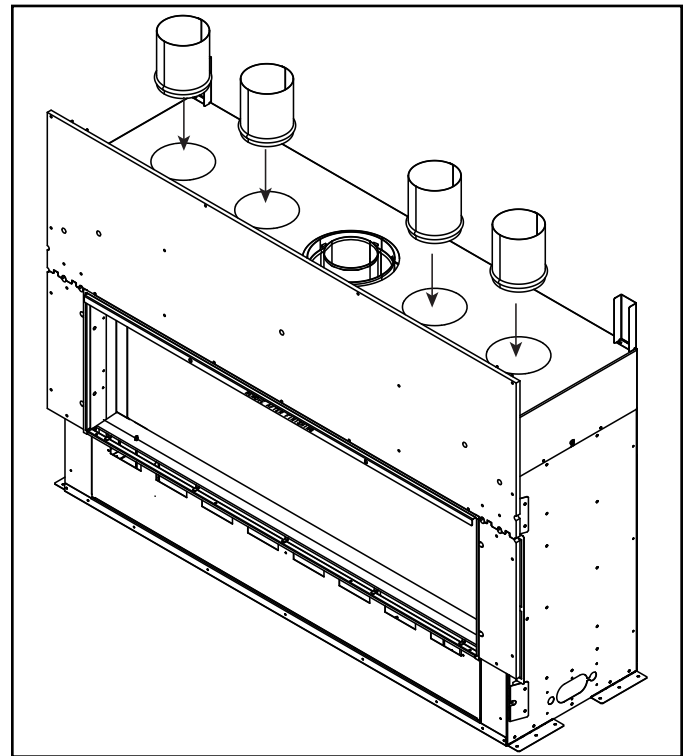

Figure 9 Install Collars
3. Set a collar in each of the holes where the knockouts were removed. See Figure 9.